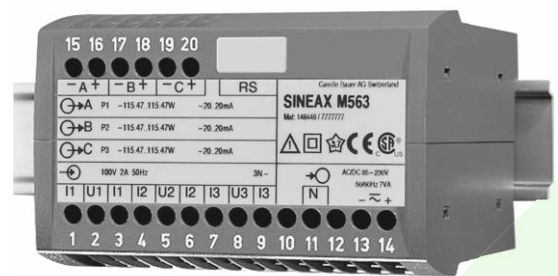

Fig. 1. SINEAX M 563 transducer in housing P20/105 clipped onto a top-hat rail.
**SINEAX M 561/M 562/M 563** (Fig.1) is a programmable transducer with a **RS 232 C** interface. M 561 supervises 1 variable (input) which is available on an analog output signal. Input and output are electrically isolated. M 562 resp. M 563 measure 2 resp. 3 variables simultaneously and generate **2** resp. **3** electrically isolated analog output signals.